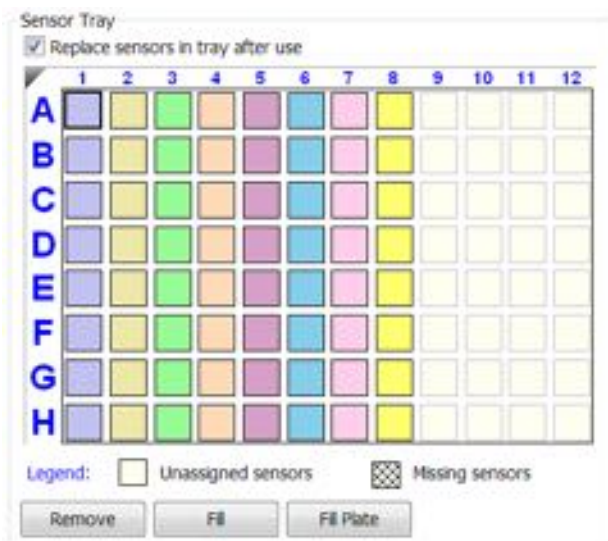

Figure 6-33: Replace Sensors in Tray After Use Check Box
- Optional for the Octet RED96 and RED96e instrument only: After an assay is completed, the biosensors can be returned to the biosensor tray or ejected through the biosensor chute to an appropriate waste container. To return the biosensors to the tray, click the **Replace sensors in tray after use** check box (see Figure 6-33).